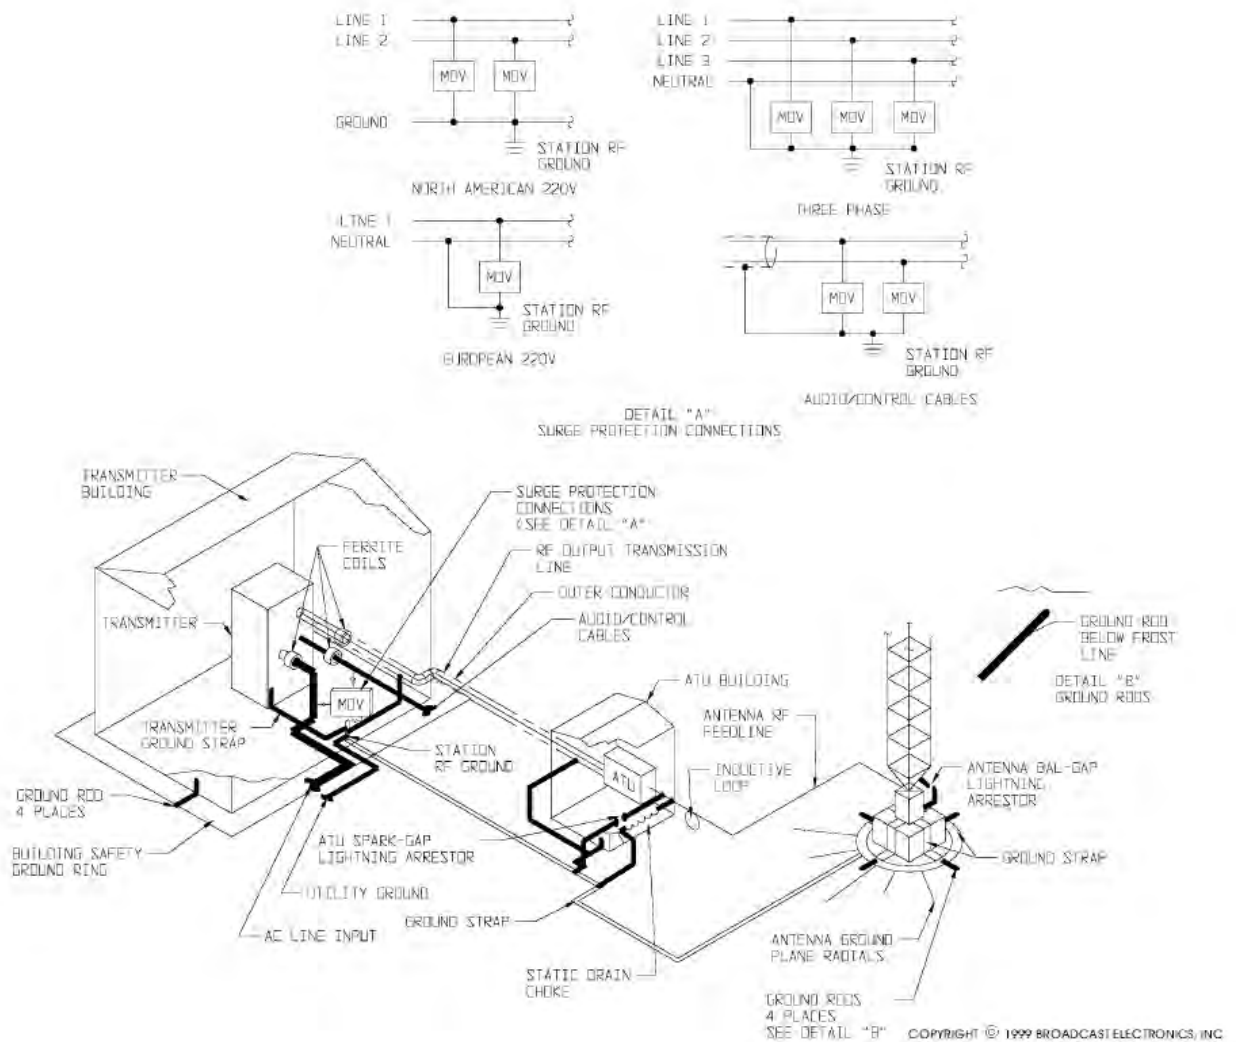

Figure 2-12: Antenna Lightning Protection System
A. **ANTENNA BALL-GAP LIGHTNING ARRESTOR.** Each tower in the antenna system must be equipped with a ball-gap lightning arrestor (refer to Figure 2-12). The ball-gap arrestor is designed to safely conduct lightning potentials to ground. Inspect the ball-gap arrestors by performing the following procedures.
B. **ANTENNA-TUNING-UNIT SPARK-GAP LIGHTNING ARRESTOR.** The antenna-tuning-unit (ATU) must be equipped with a spark-gap lightning arrestor (refer to Figure 2-12). The spark-gap arrestor can be: 1) a ball-gap type, or 2) a horn type. Adjust the spark-gap for the smallest possible gap without arcing during peak modulation activity.
C. **TRANSMITTER SITE GROUNDING SYSTEM.** The transmitter site grounding system must be properly connected for reliable transmitter operation. A typical transmitter site grounding system is shown in Figure 2-12. Perform the following procedures to ensure the grounding system connections are secure.
entry of lightning potentials (refer to Figure 2-12). Refer to the following text to install MOVs and ferrite cores to prevent the conductance of lightning potentials. Ensure MOV's are connected from the ac line and audio/control cable conductors to the station RF ground as shown. The MOVs should be rated for 20,000 Ampere surges (BE P/N 140-0032).